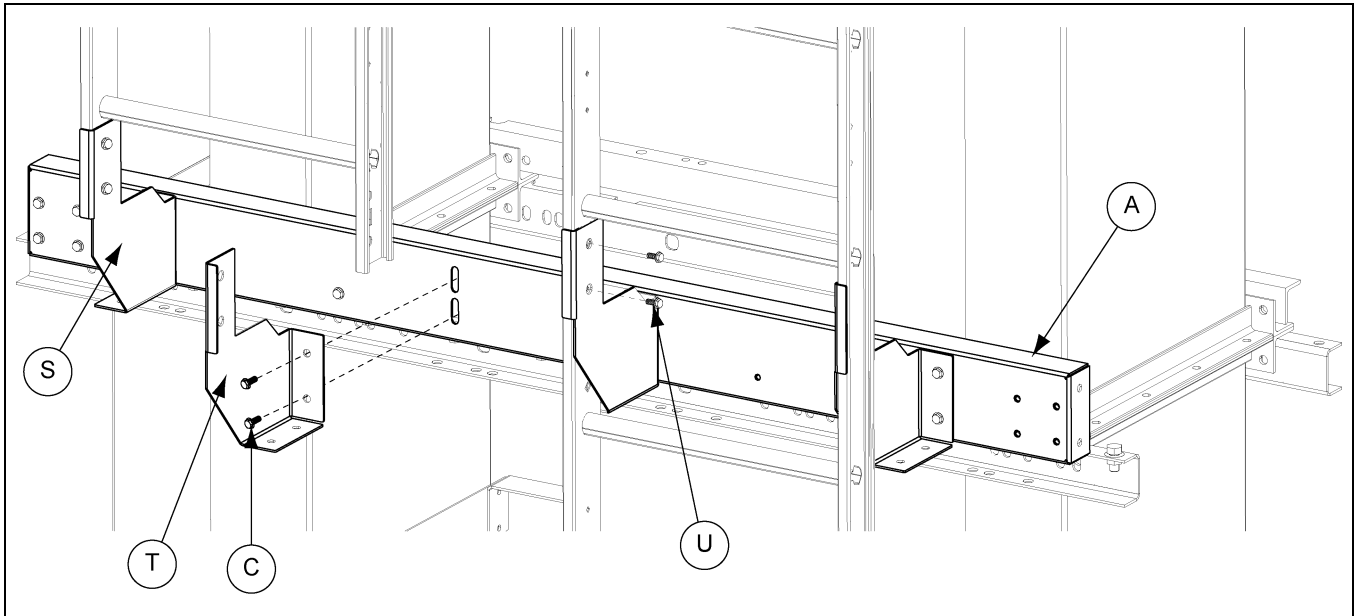

Figure 7M
9. Install ladder support brackets to the rest platform cross channel (RP1636CCX) (A) using 3/8" x 3/4" hex bolts (S-7105) (C).
10. Attach ladders to ladder support brackets using 1/2" x 3/4" hex bolts (S-7932) (U). (See Figure 7M.)